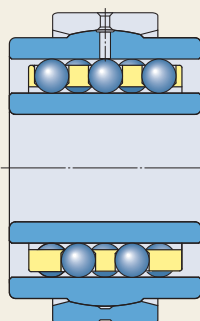

Fig.13
- tailor-made bearings and units (fig.12 and fig.13)